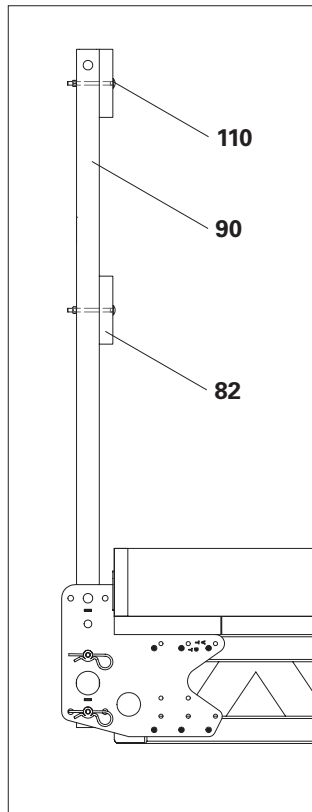

Fig. B5.06
4. Screw the guardrail board onto Guardrail Post RCS 150 (**90**) with F.H. bolts DIN 603 M8 x 100 MU (**110**). (Fig. B5.06)